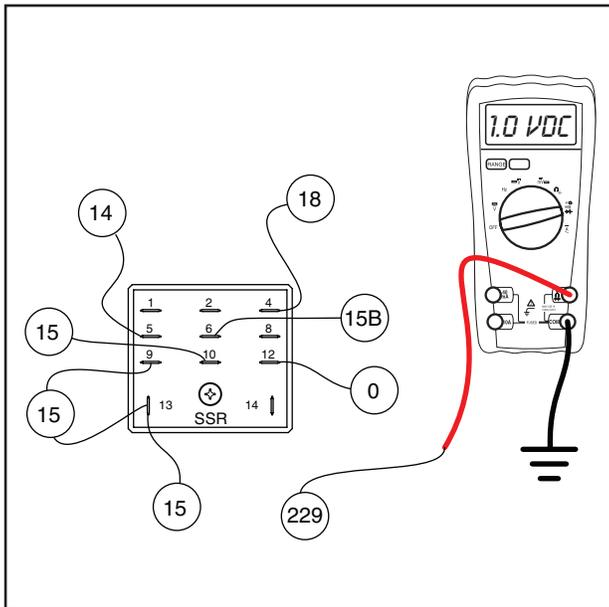

Figure 6-47. – Testing Wire 229 to Ground
3. Connect the positive meter test lead to Wire 229 previously removed. Connect the negative meter test lead to frame ground. See Figure 6-47. Place the Start-Run-Stop Switch to the start position. The meter should read approximately 1.0 VDC. If the correct voltage is indicated, stop testing.